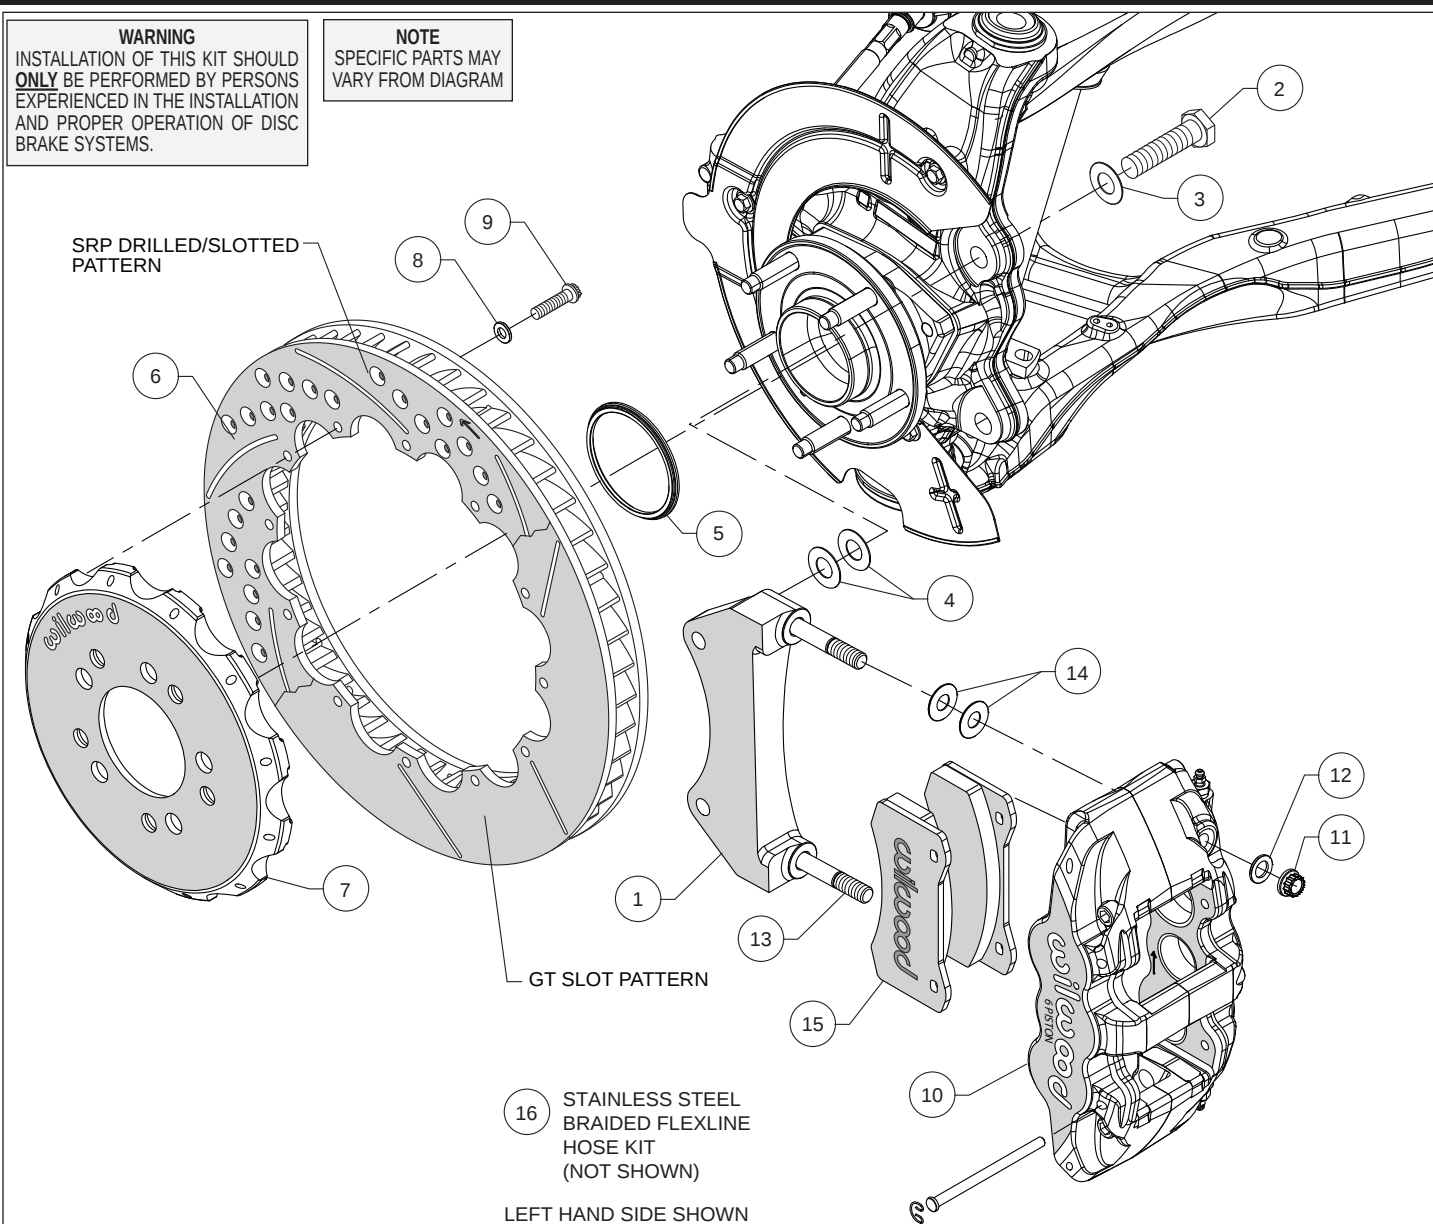
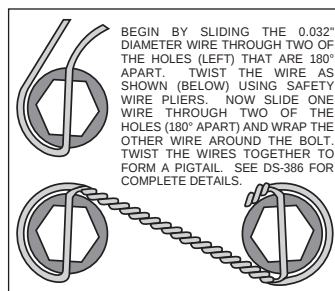

Figure 1. Typical Installation Configuration
Figure 4. Safety Wire Diagram
Assembly Instructions (numbers in parenthesis refer to the parts list and Figure 1 on the preceding pages):
- The caliper mount bracket (1) should initially be installed with clean, dry threads on the mounting bolts. Orient the bracket as shown in Figure 1, and Photo 1 and install using bolts (2) and washers (3). Initially place two .029" thick shims (4) on each bolt between the bracket and upright, Figure 1. Temporarily tighten the mounting bolts. **NOTE:** The bracket must fit squarely against the mount bosses on the upright. Inspect for interference from casting irregularities, machining ridges, burrs, etc. Later, after the caliper alignment has been checked, the mount bolts will be secured using red *Loctite*® 271.
- Orient the rotor (6) and the hat (7) as shown in Figure 1 and Photo 2. Attach rotor to hat using bolts (9) and washers (8). Using an alternating sequence, apply red *Loctite*® 271 to the threads, and torque to 155 in-lbs. For an added measure of security, the bolts may be safety wired using standard 0.032 inch diameter stainless steel safety wire as shown in Figure 4. Please refer to Wilwood's data sheet DS-386 (available at www.wilwood.com/Pdf/DataSheets/ds386.pdf) for complete safety wire installation instructions.
- **NOTE:** This kit contains distinct right and left hand calipers that must be mounted in a specific direction, as described below. Lubricate the caliper mounting studs (13) with lightweight oil. Initially place two .030" thick shims (14) on each stud as shown in Figure 1 and Photo 5. Mount the caliper (10) onto the bracket (1) using lock nuts (11) and washers (12), Figure 1. Ensure that the caliper is mounted so that the largest pistons are at the rotor exit end of the caliper, in relation to the direction of rotor rotation. Temporarily tighten the lock nuts and view the rotor through the top opening of the caliper. The rotor should be centered in the caliper, Photo 6. If not, adjust by adding or subtracting shims (4) between the bracket and the upright. Always use the same amount of shims on each of the two mounting bolts. Once the caliper alignment is correct, remove the bracket mounting bolts (2) one at a time, apply red *Loctite*® 271 to the threads, and torque to 77 ft-lb.
- Remove the two pad retaining pins from the caliper (10) by carefully popping out the pin retaining clips and sliding out the pins. Insert the brake pads (15) into the caliper from the bottom, Figure 1 and Photo 7. With the friction material facing the rotor, secure the brake pads in place with the pad retaining pins and clips, Photo 8. Reinstall the caliper onto the caliper mounting bracket and temporarily tighten the lock nuts. Check that the top of the brake pad is flush with the outside diameter of the rotor, Photo 9. If not, adjust by adding or subtracting shims (14) between the caliper and the bracket. After the caliper pad height is set, torque the caliper lock nuts (11) to 47 ft-lb.